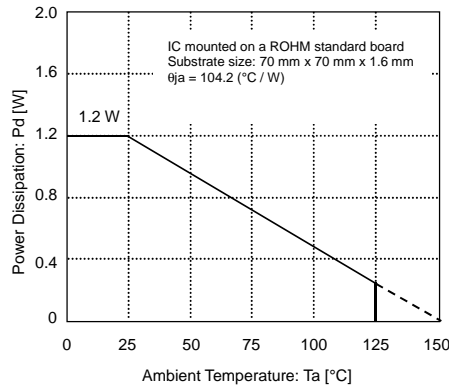

Figure 20
Refer to the heat mitigation characteristics illustrated in Figure 20, 21 and 22 when using the IC in an environment where $T_a \geq 25^{\circ}\text{C}$. The characteristics of the IC are greatly influenced by the operating temperature. If the temperature is in excess of the maximum junction temperature T_{jmax} , the elements of the IC may be deteriorated or be damaged. It is necessary to give sufficient consideration to the heat of the IC in view of two points, i.e., the protection of the IC from instantaneous damage and the maintenance of the reliability of the IC in long-time operation.
In order to protect the IC from thermal destruction, it is necessary to operate the IC in temperatures not exceeding the maximum junction temperature T_{jmax} . Figure 20 illustrates the power dissipation/heat mitigation characteristics for the TO252-3 package. Operate the IC within the power dissipation (P_d) capabilities. The following method is used to calculate the power consumption P_C (W).